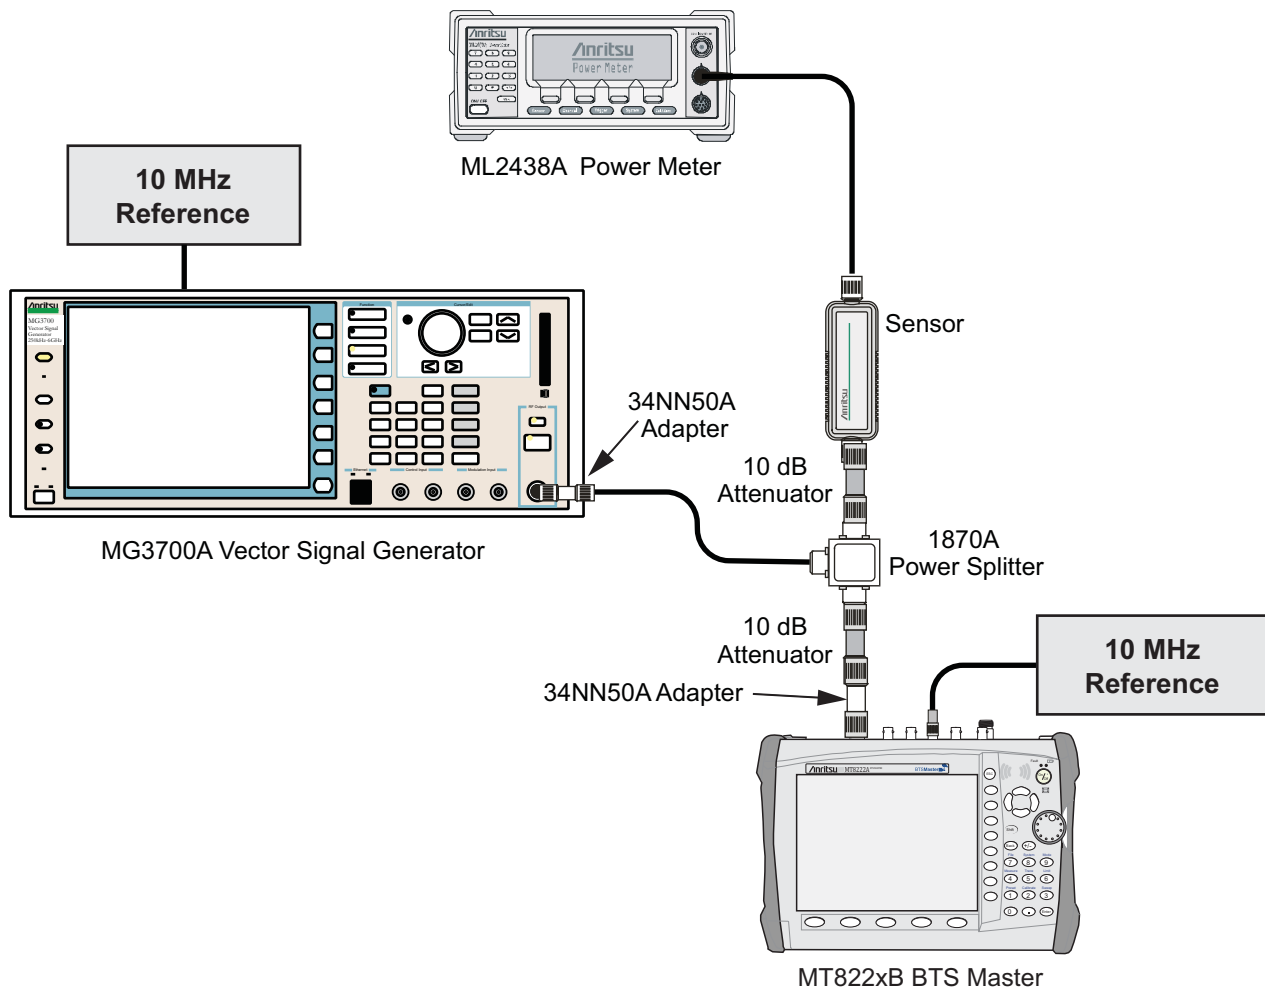

Figure 5-5. WCDMA Occupied Bandwidth (OBW) Verification
3. Connect the MG3700A, splitter, attenuator, power meter, and Sensor As shown in Figure 5-5.
4. Press the **On/Off** key to turn on the MT822xB and wait until the measurement display appears then press the **Shift** key then press the **Mode** (9) key to activate the mode selection menu.
6. Press the **Shift** key, the **Preset** (1) key, and then the **Preset** soft key.
4. Press the **On/Off** key to turn on the MT822xB and wait until the measurement display appears then press the **Shift** key, then press the **Mode** (9) key to activate the mode selection menu.
6. Press the **Shift** key, the **Preset** (1) key, and then the Preset soft key.